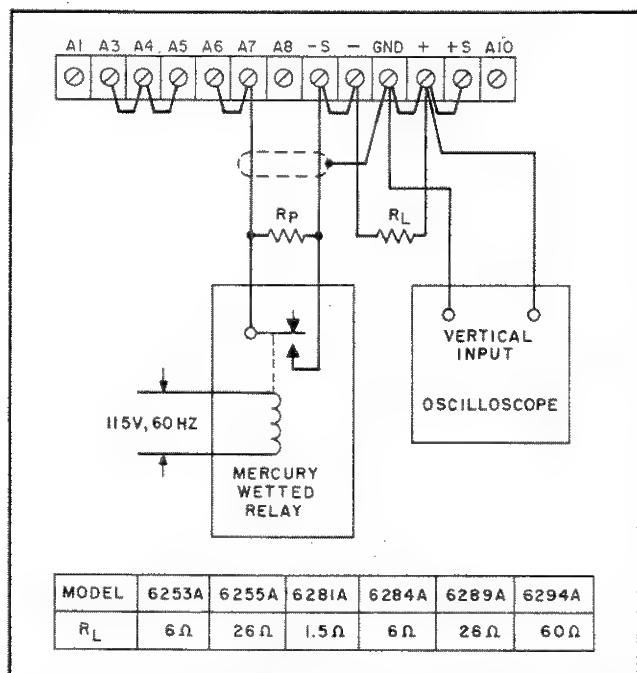

Figure 5-10. Constant Voltage Programming Speed, Test Setup
5-32 Programming Speed. This measurement is made by monitoring the output voltage with an oscilloscope while rapidly changing the remote programming resistance. For up-programming, the remote resistance is varied from zero ohms to the value that will produce maximum output voltage; and for down-programming, the remote resistance is varied from the value that will produce maximum output voltage to zero ohms. To check the up-programming speed, make the connections indicated in Figure 5-10; for down-programming, simply remove RL.
1. Restrap the rear barrier strip as indicated in Figure 5-10. Note that the jumper between +S and A10 is removed. This disconnects the output capacitor C20 to increase the programming speed. A minimum amount of output capacitance (C19) is permanently wired to the output and should not be removed, because the supply could oscillate under certain load conditions. The programming speed increases by a factor of from 10 to 100 when the output capacitor C20 is removed.
2. Connect the relay, oscilloscope, and programming resistor  $R_p$  as illustrated in Figure 5-10. Select the value of the programming resistor that will produce maximum output voltage of the supply. This value is obtained by multiplying the programming coefficient (200 ohms/volt, 300 ohms/volt for Model 6294A) by the maximum rated output voltage of the supply.
4. The time (T) required for the output voltage to change from zero volts to maximum rated output or from maximum rated output to zero should be less than 10 milliseconds.